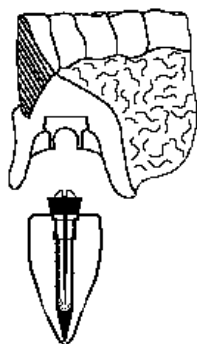

Fig.5 Cap Incorporation
Caution!! Again, do not remove the colored rubber band around the base of the overdenture attachment until after the attachment cap is incorporated into the denture. If you do, the acrylic could lock into the undercut of the ball and prevent removal of the denture from the mouth. The rubber band prevents this from occurring (Fig. 5).
5. The laboratory places the transfer stud in the impression and pours it up in stone or plaster. (Fig. 5)